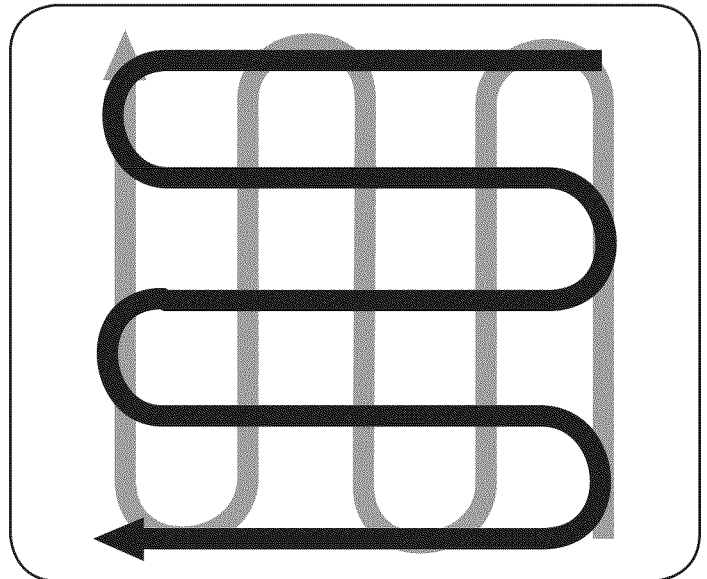

Figure 14
- When finished in one direction, make a second pass at a right angle. See Figure 14. Overlap each pass for the best results (in very hard ground, it may take three or four passes to thoroughly pulverize the soil.)